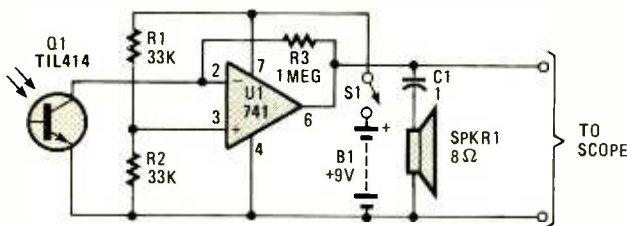

Fig. 4. This infrared detector gives you the option of listening to infrared hash, or viewing it on your scope. Imagine "listening" to a light bulb.
Many people have either built or at least seen projects that detect infrared (IR) pulses. This circuit (see Fig. 4), however, can be used not only to detect IR pulses but to examine them as well. It can also be used as the receiver for a lightwave communications system.